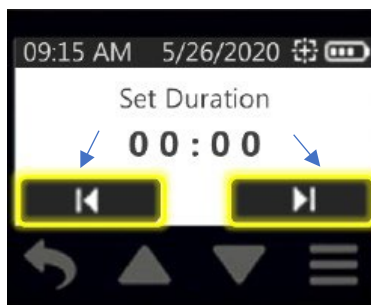

Figure 34. Left/Right and Up/Down Buttons
4. Hour digit 1 will flash. Touch up/down arrow buttons to increment/decrement hour. Touch right arrow to advance to hour digit 2 (will flash) and up/down arrow buttons to adjust hour digit 2. Repeat through minutes (Figure 34).